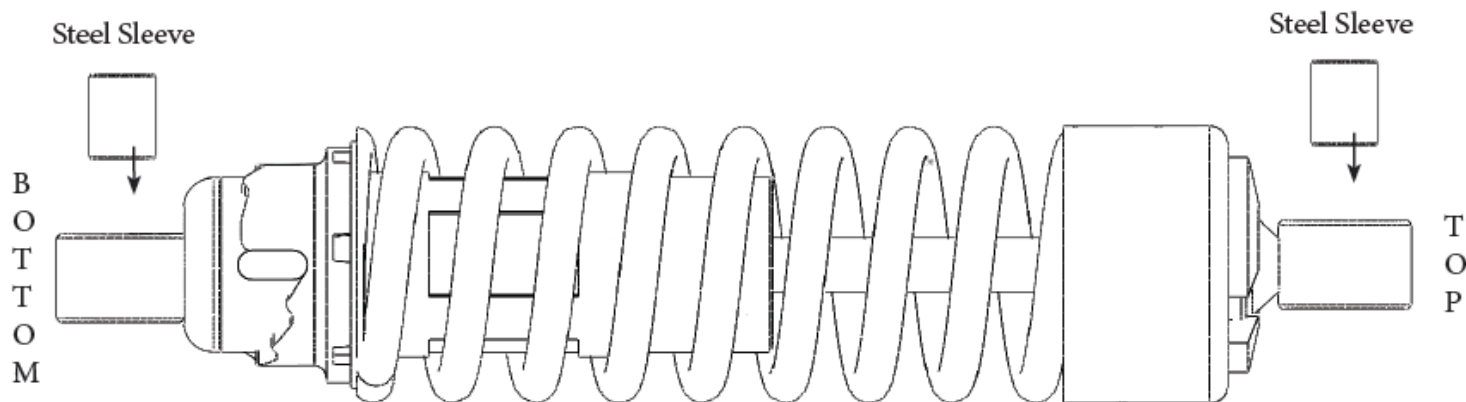

Figure 1
- Install shock assemblies with the OEM steel sleeves (Figure 1) onto motorcycle and tighten mounting bolts / nuts to proper torque. Check clearances shock to frame and shock to chain, chain guide, disc caliper and linkage. Offset lower eye may be rotated in or out to gain clearance where required.